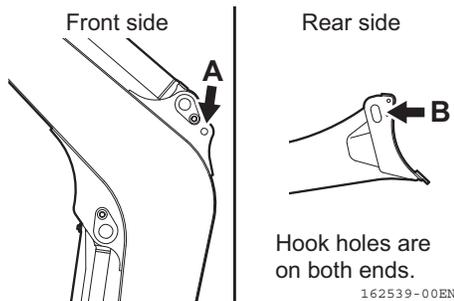

Fig. 4-4
5. Pass a sling belt (or wire rope) through the portion (Fig. 4-4, A) on the boom.
6. Install the shackles to the suspending holes (two places) (Fig. 4-4, B) on the both sides of the blade, and then install the sling belt (or wire rope) securely.